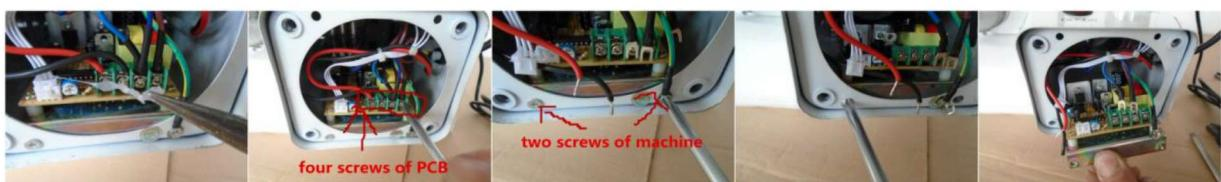

Fig 2
B. 用钳子把厌氧胶拿开, 然后将扭松线路板上的四颗小螺丝和移除机器上的两颗螺丝, 最后把所有的线拔了, 拿出旧线路板 (图 2) .
First, remove the anaerobic and two screws of the machine. Then, unplug all wires after unscrewing four screws of the old PCB. Finally, remove the old PCB from the machine. (Fig2)